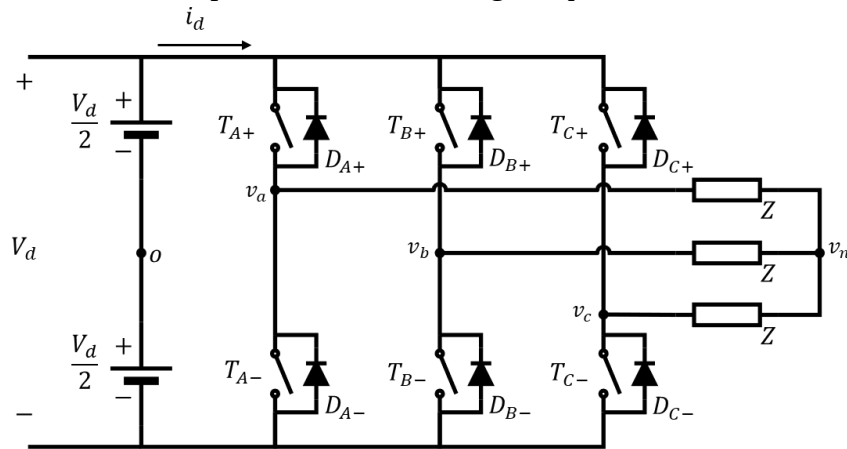

Figure Q4
Q4. Figure Q4 shows a three-phase inverter working in square-wave mode.
- Identify the key components of the three-phase inverter shown in Figure Q4 and explain the functions they perform. [3]